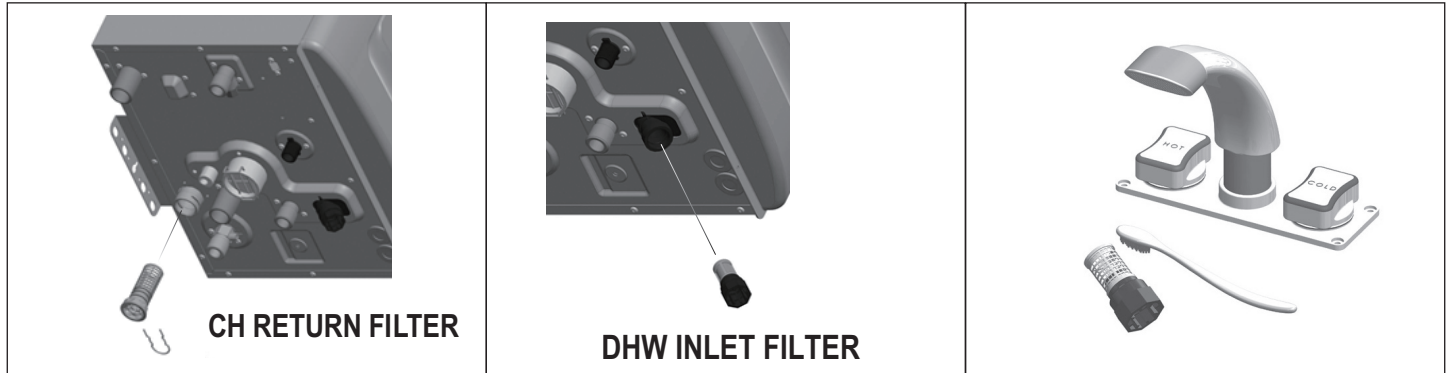

Figure 45 – Cleaning the Inlet Filter
5. Remove the DHW inlet filter. Then clean it with a toothbrush and clean running water. See Figure 45.